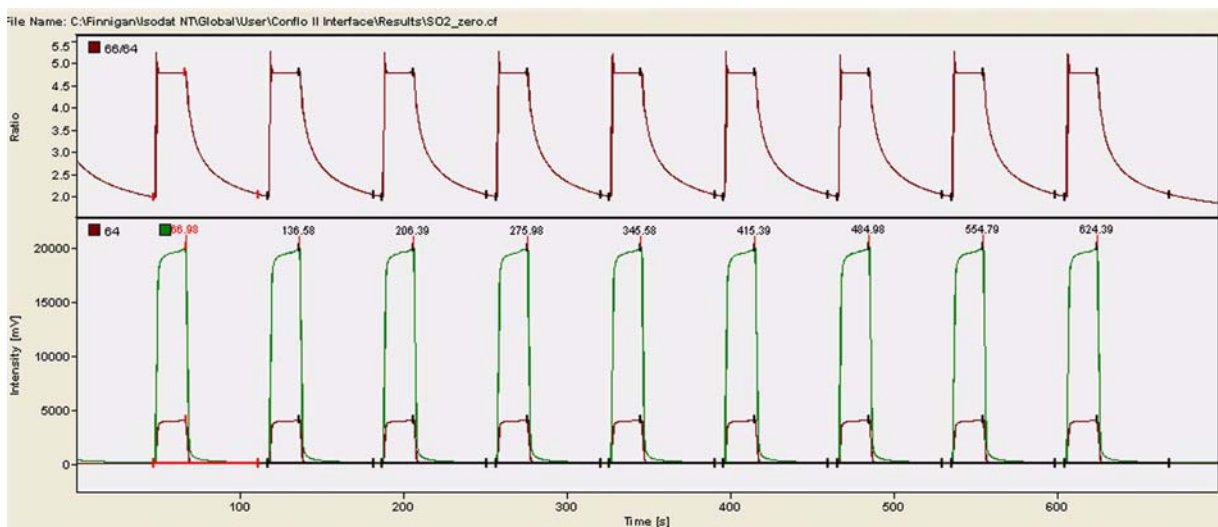

Figure 7-12. Zero Enrichment of Sulfur - Chromatogram
- Recognize the nine on-off pulses shown above in the expected chromatogram (Figure 7-12).